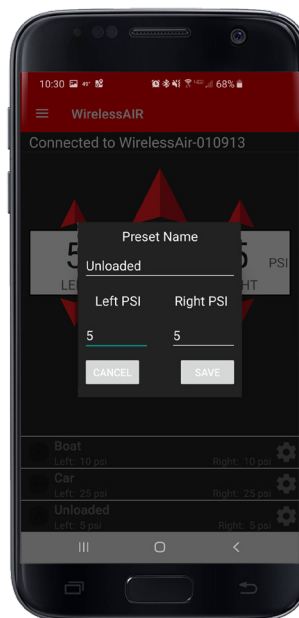

fig. E.4
1. The app must be connected to the manifold to change presets (Fig. E.4). Presets are stored on the manifold.